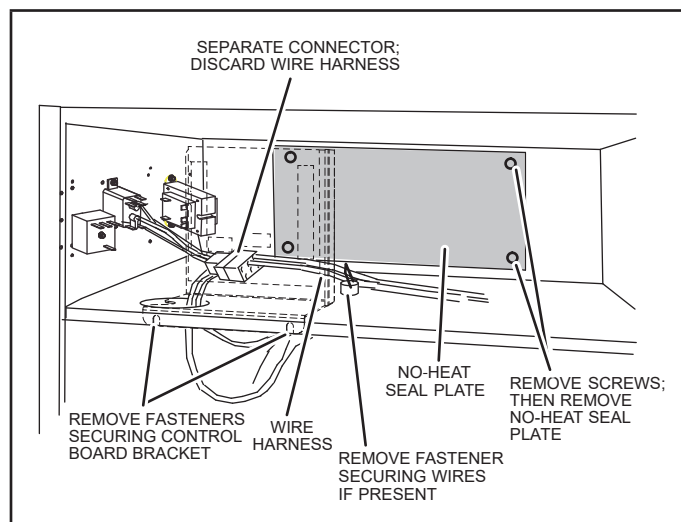

FIGURE 9. Prepare to Install Heat Element
- 3 - Disconnect any existing field supply wires and pull them out of the air handler. Disconnect and remove wiring harness, fastener and control board bracket (see figure 9). If not removed, these items will prevent the heat section's base from resting properly in the compartment.
- 4 - Remove the no-heat seal plate in the air handler frame (see figure 9).